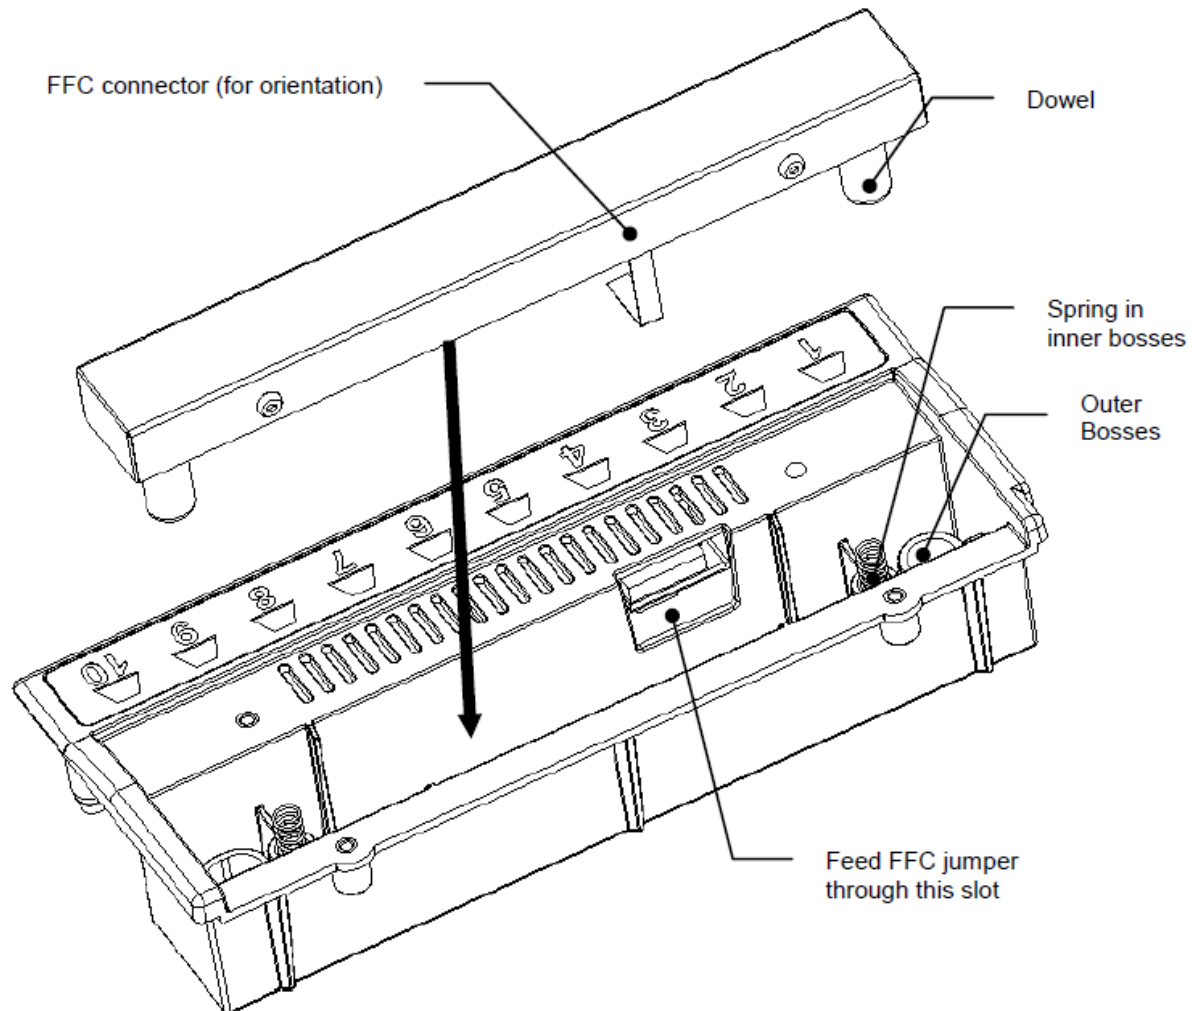

Figure L-5: Removing the Floating Plate Assembly
4. The Floating Plate assembly is removed by lifting it off the dowels (Figure L-5).